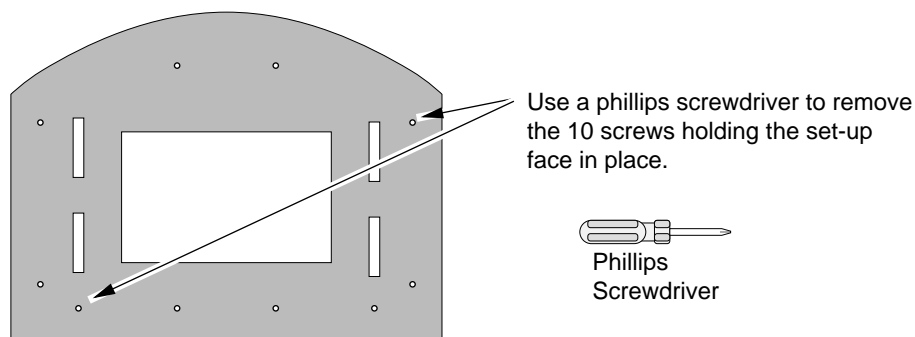

Figure 30
- Remove the set-up face using a phillips screwdriver (see Figure 30).